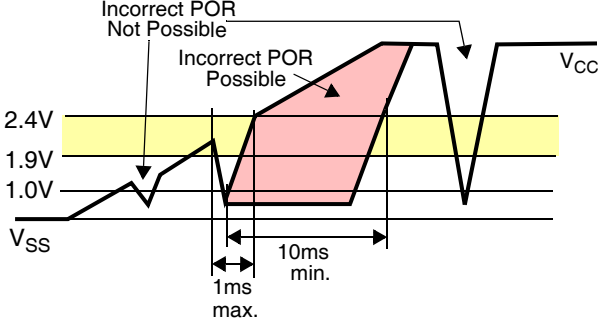

FIGURE 4. V_{CC} POWER-ON BROWN-OUT CONDITION
3. Noise or voltage direction changes are especially significant when V_{CC} is in the range of 1.9 to 2.4V. See Figure 4.
4. If the voltage on V_{CC} reaches 1.9 to 2.4V, but has not reached 2.7V, and then falls to less than 1V, it must recover to 2.4V within 1ms or remain below 1V for more than 10ms. This is a "brownout" condition. A brownout condition that happens before V_{CC} reaches the 1.9 to 2.4V region or when V_{CC} is greater than 2.7V always retains the proper configuration. See Figure 4.